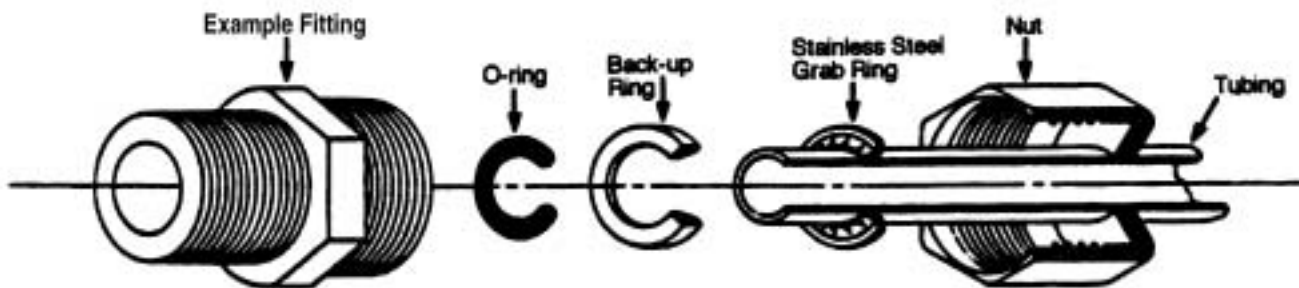

Figure 3: Typical Polypropylene Tubing Adapter Installation
1. Completely disassemble the fitting. Refer to Figure 3 to familiarize yourself with the names of the component parts.
3. Place the grab ring and backup ring in the hex nut in the order and orientation shown in Figure 3. Thread the nut onto the adapter. DO NOT use the o-ring at this time.